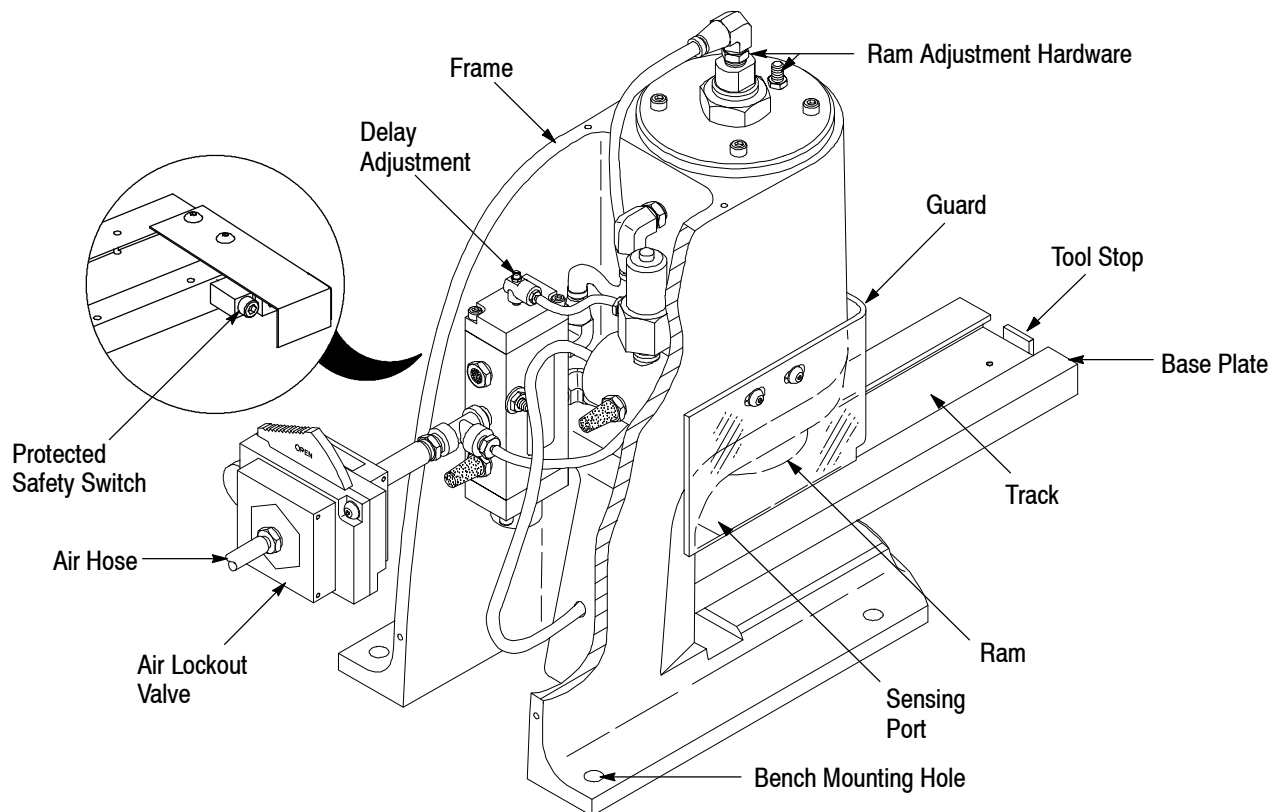

Figure 1
2. DESCRIPTION (Figure 1)
5. INSTALLING TOOLING ASSEMBLY (Figure 1)